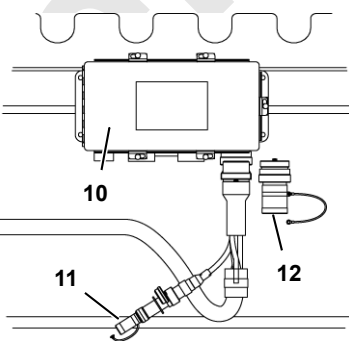

FIGURE 6-10
See Figure 6-10 for the following procedure.
1. When replacing the limit switch, mount the fixed limit switch arm (9) at 90° with respect to the cylinder centerline. Reference the switch free position view (2c) in Figure 6-10.
2. Confirm the limit switch bracket (7) clears the outer diameter of the cylinder head.